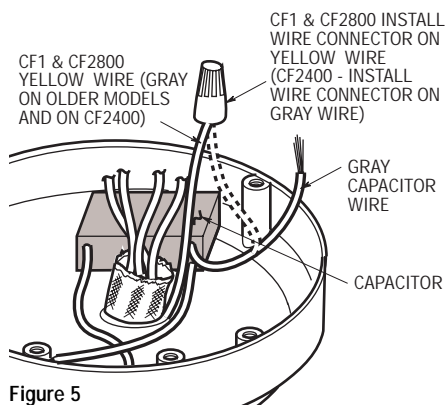

Figure 5
- 6. For Ceiling Fan Models CF1 and CF2800 Only.** Locate the gray capacitor wire which is connected to the yellow wire (gray wire on older models) coming from the center of the motor. Remove the wire connector and separate the gray and yellow wires. Cap the yellow wire using a wire connector (supplied) (Figure 5).
- 6A. For Ceiling Fan Model CF2400 Only.** Locate the gray capacitor wire which is connected to the gray wire coming from the center of the motor (yellow wire on older models). Remove the wire connector and separate the gray wires. Cap the gray wire using a wire connector (supplied) (Figure 5).